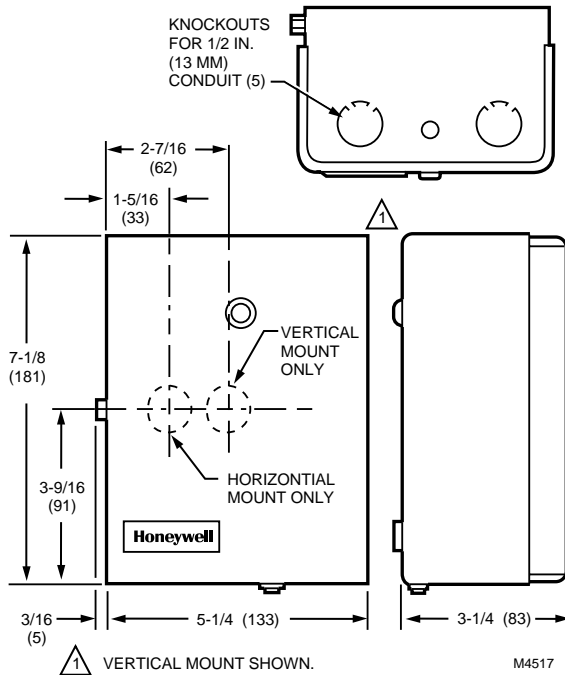

Fig. 1. R8182D,E,F installation dimensions in in. (mm).
**Dimensions:** Refer to Fig. 1 and 2.